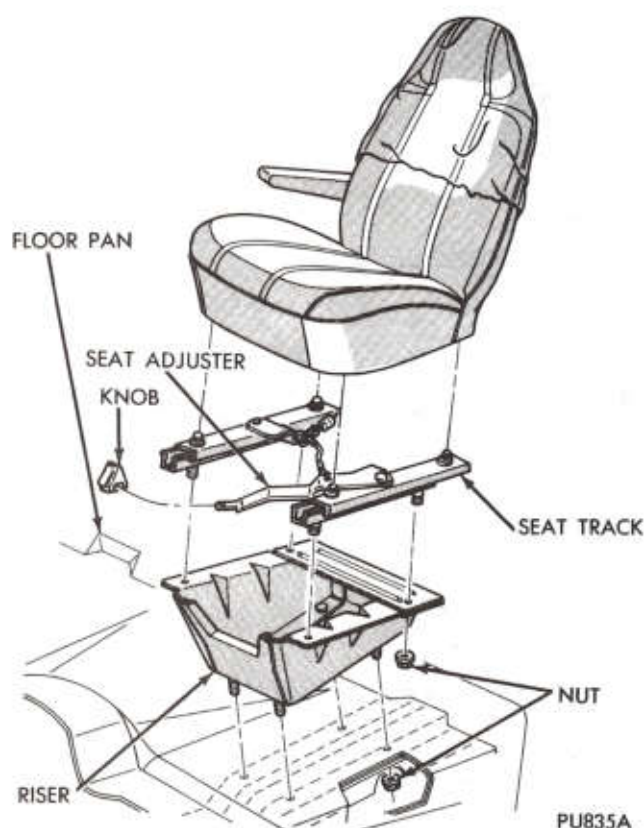

Fig. 5—Bucket Seat, Left Side
Bucket Seat-Left Side (Fig. 5) (Ramcharger)
(1) To remove complete seat, adjuster, and riser, remove nuts mounting riser to underbody.
(2) To remove individual assemblies refer to the assembly in (Fig. 5).
- (1) To install complete seat adjuster and riser as one assembly, place assembly into position in vehicle and secure nuts to riser located on underbody.
- (2) To install individual assemblies refer to (Fig. 5).